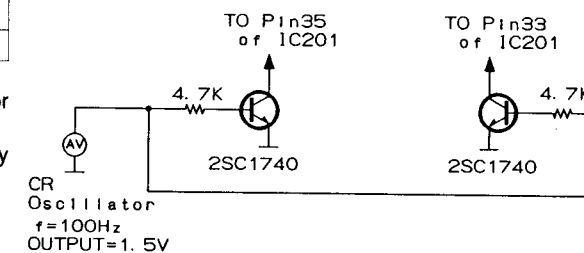

Figure 34-2
- Connect the measuring jig shown in Fig. 34-2, and apply 100 Hz, 1.5 V from the oscillator.